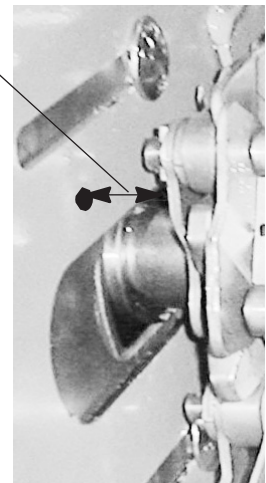

Figure 4. Headshaft Centering Measurement
- a).** Measure the distance between the headshaft sprocket face (or chain face) and the inside of the sidewall on both ends of the shaft to verify that the drag chain is centered in the discharge section (Figure 4). If not, proceed as follows:
- Measure the distance between the chain face (or sprocket face) and the inside of the sidewall (Figure 4). Be sure that the sprockets are centered (distance is equal for both sides).